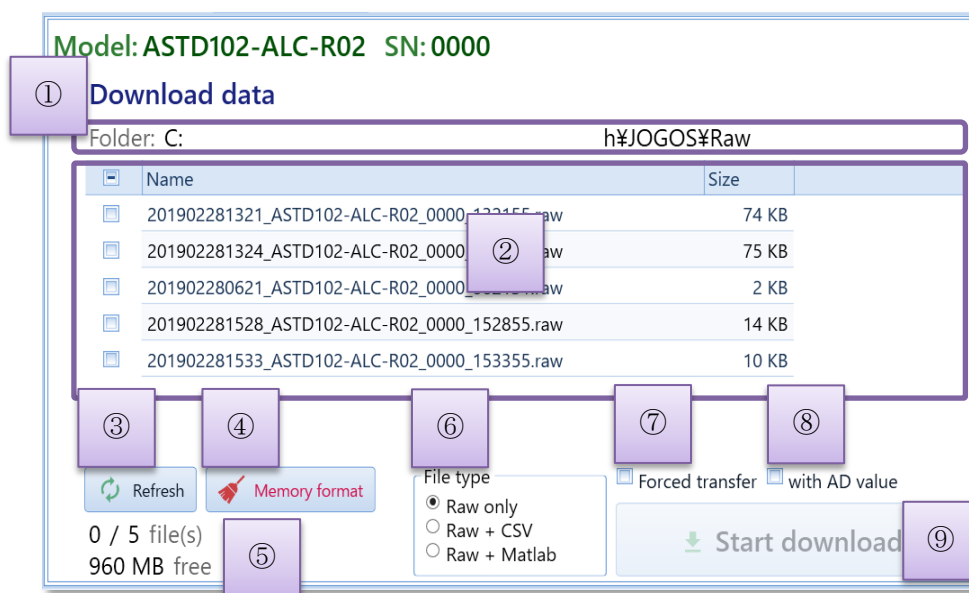

Figure 6.22 Data transfer screen (RINKO-Profiler)
- (4) Measurement data information received from the instrument is shown. (Figure 6.22 / Table 6.3) Able to cancel by clicking on [Cancel] button while receiving.
- (1) Choose a file(s) to transfer in data transfer screen. (Figure 6.22)